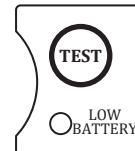

Figure 6
- You can test your dimming settings by holding down the Test button in **Figure 6**. It will return to its normal position when you take your hand off the button.
- When the Low Battery warning led in **Figure 6** lights red, the battery should be replaced.